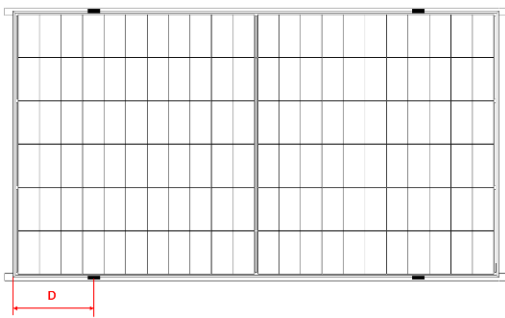
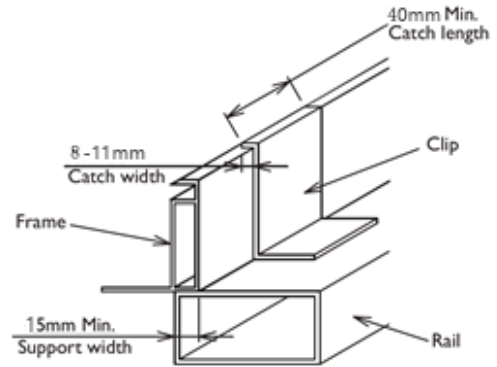

Fig.3 Rails overlapping the long-side frame
Fig.8 Mounting requirements for rails overlapping the short-side frame
When double-sided PV modules are installed, each PV module must be fixed with at least 4 presses, as shown in Figures 3 and 4
⑧ For the installation method shown in Fig. 3, the module needs to be fixed with professional clamps (as shown in Fig. 8), and the overlap between the C side of the module and the rail should be ≥ 15 mm. Astronergy's limited warranty will be void if improper clamps or improper installation is used.